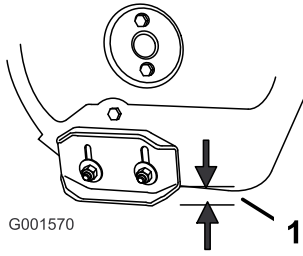

Figure 24
1. Loosen the nuts that secure both skids to the auger sides until the skids slide up and down easily (Figure 24).